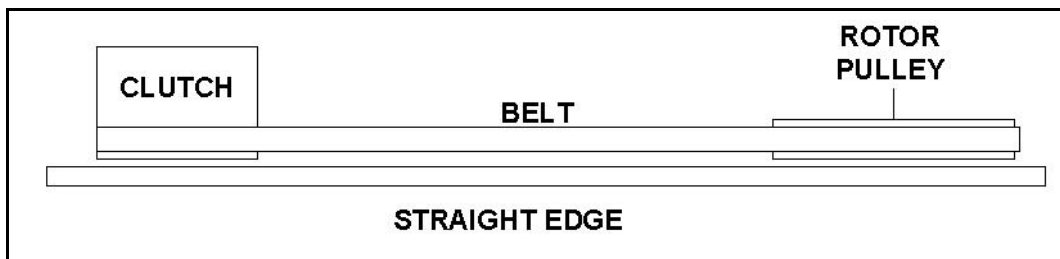

Figure 2
- Check alignment of the clutch (item #12, pg.28) with the drive pulley (item #13, pg 28) by placing a straightedge across both faces as shown in figure 2. If adjustment is necessary, correct alignment by moving rotor pulley in or out on the rotor shaft. **Do not make adjustment by moving the clutch on the engine shaft.**